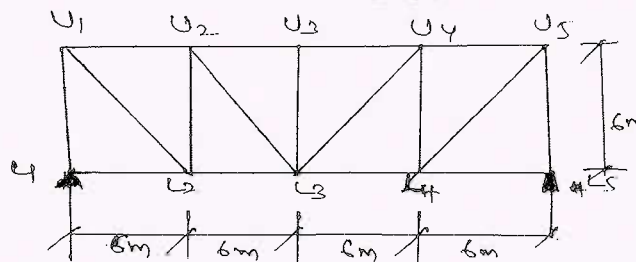

Fig.Q10(b)
- b. Determine the influence line diagram for the forces in the members  $U_1U_2$ ,  $U_2U_3$ ,  $L_2L_3$ ,  $U_2L_2$  and  $U_2L_3$  for the part truss as shown in Fig.Q10(b).